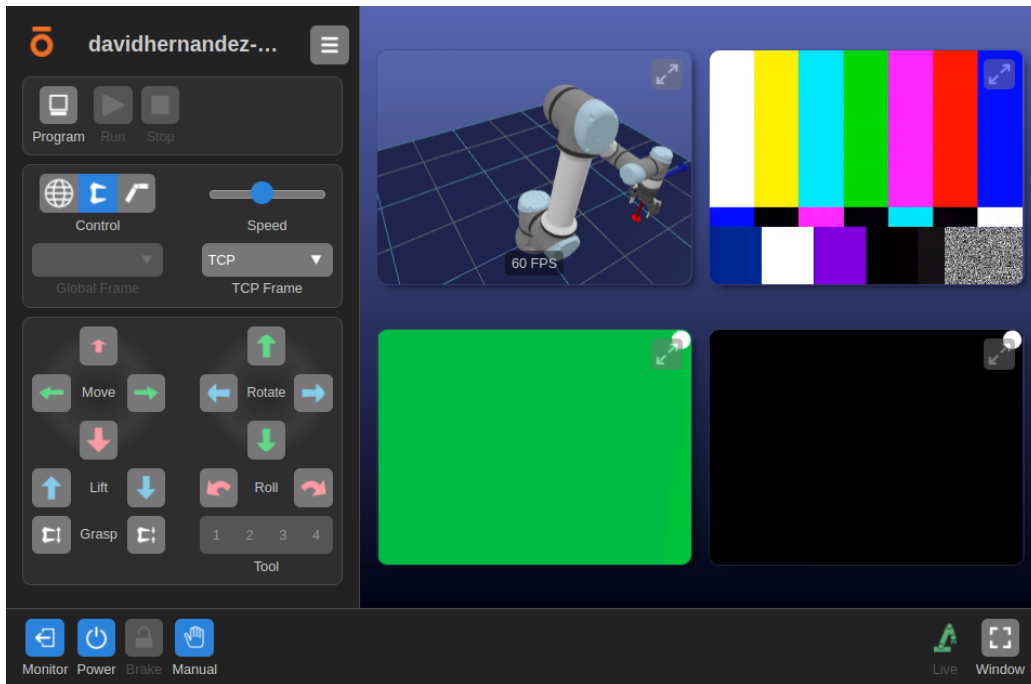

Figure 22: Robot in manual teleoperation mode.
1. **On-Screen Jog Buttons** Allow you to use teleoperation at any moment, even if you're using a device like a tablet. An example of on-screen jog buttons is shown in Figure 22.
The control frames relevant to each control mode are visualized as a red-blue-green coordinate axis in the 3D digital environment. The colors of the jog buttons (for example, in Figure 22) represent the colors of each corresponding axis of the control frame.
TCP's created on the UR Pendant are automatically detected by Olis Connect software. You can select from a list of currently available TCP's using the "TCP Frame" dropdown menu, as shown in Figure 22. When a TCP is selected as the control frame while using the TCP control mode, it is visualized by a 3D axis in the 3D digital environment. This lets you validate that it's correctly aligned with the 3D model of the UR arm.